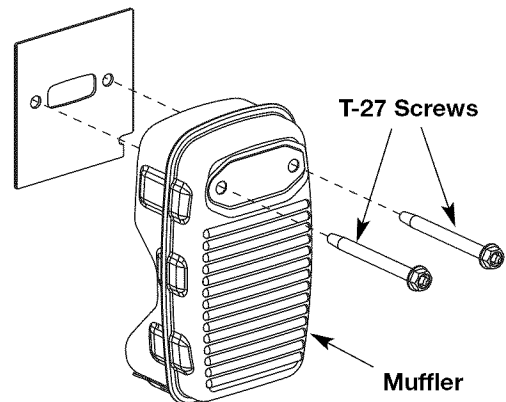

Fig. 27
2. With a Torx T-27 bit, remove the 2 screws attaching the muffler to the engine (Fig. 27).